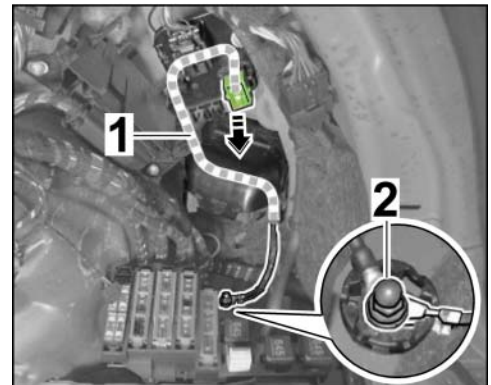

Figure 4
2.1.4 Install green pin connector socket (ground line) into the holder from the rear. ⇒ *Figure 4 -Arrow-*
2.1.5 Route ground line to ground pin 42 (rear, right). ⇒ *Figure 4*
Wire harness for trailer hitch preparation is secured to the main wire harness in the luggage compartment at the right ⇒ *Figure 4 -3-*.